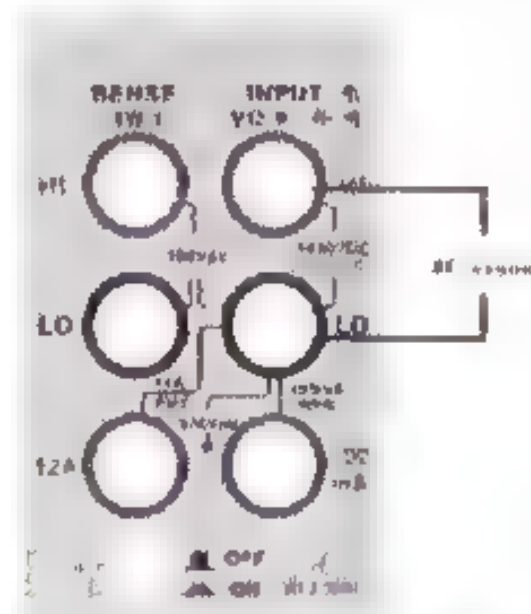

Figure 4-18 Wiring method
2. Connect the red and black test leads to the corresponding input terminals as shown in Figure 4-18